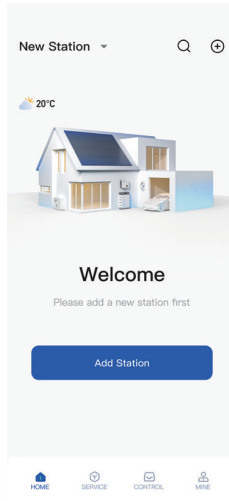

Fig. 5
– Tap **"Add station"** on the page, as shown in Fig. 5.